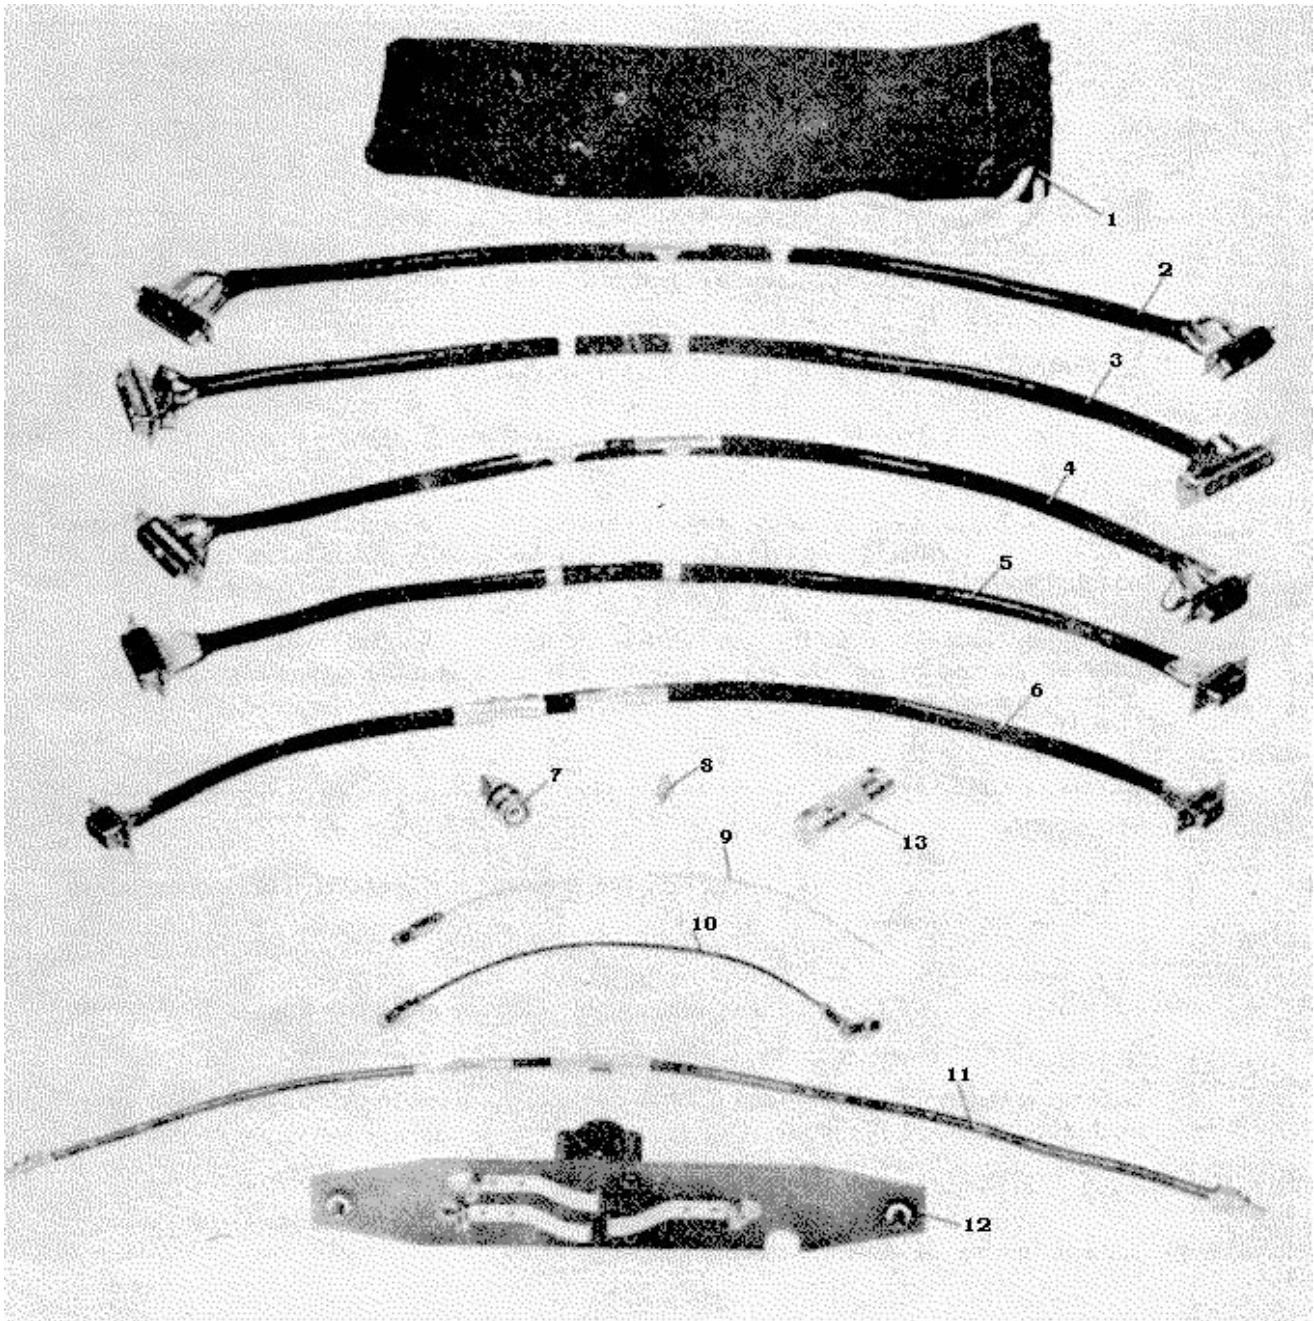

Figure 1-12. Maintenance Cable Kit
(11) MAINTENANCE CABLE KIT.- Refer to figure 1-12. The maintenance cable kit is composed of five multipin cables, two Conhex cables, a BNC-to-Conhex connector, a Conhex-to-Conhex connector, and